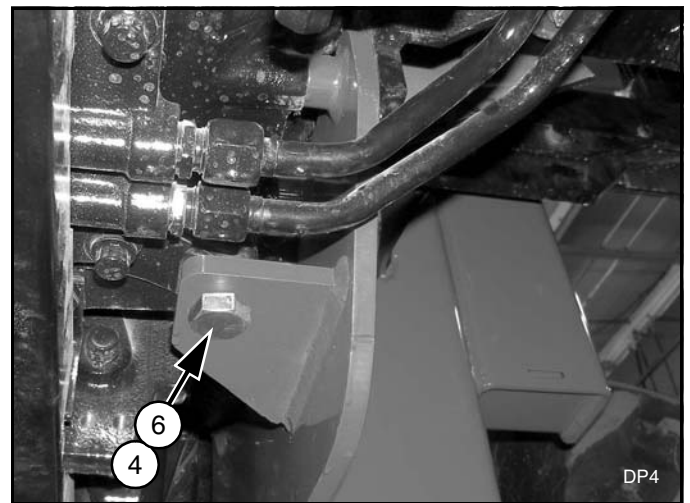

Figure 5. Right Rear Mount Installed, Bottom View
3. Secure right mount to the bottom of transmission housing using one cap screw (4) and hardened flat washer (6). See Figure 5.